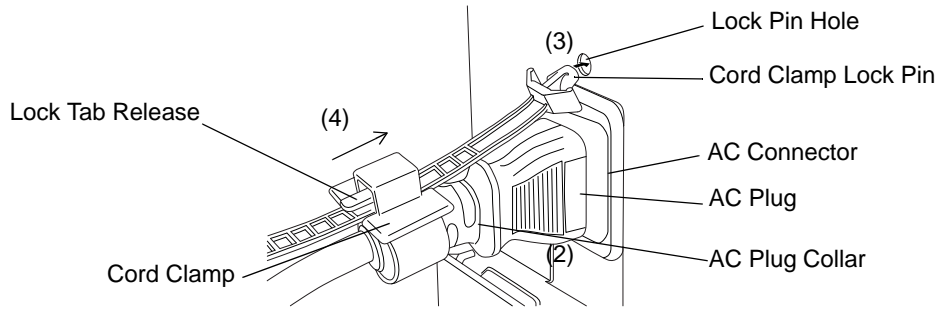

Figure 2
- (2) Connect the AC plug to the PS-A's AC connector, as shown in fig. 2.